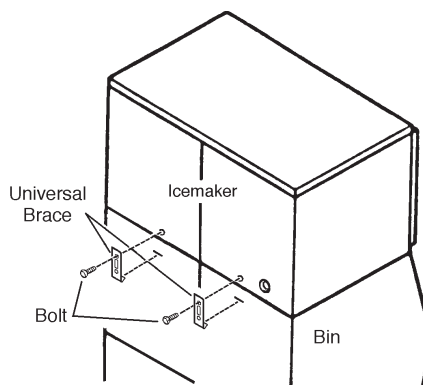

Fig. 2
- 4) Secure the icemaker to the storage bin by using the two universal braces and two of the bolts provided. See Fig. 2.